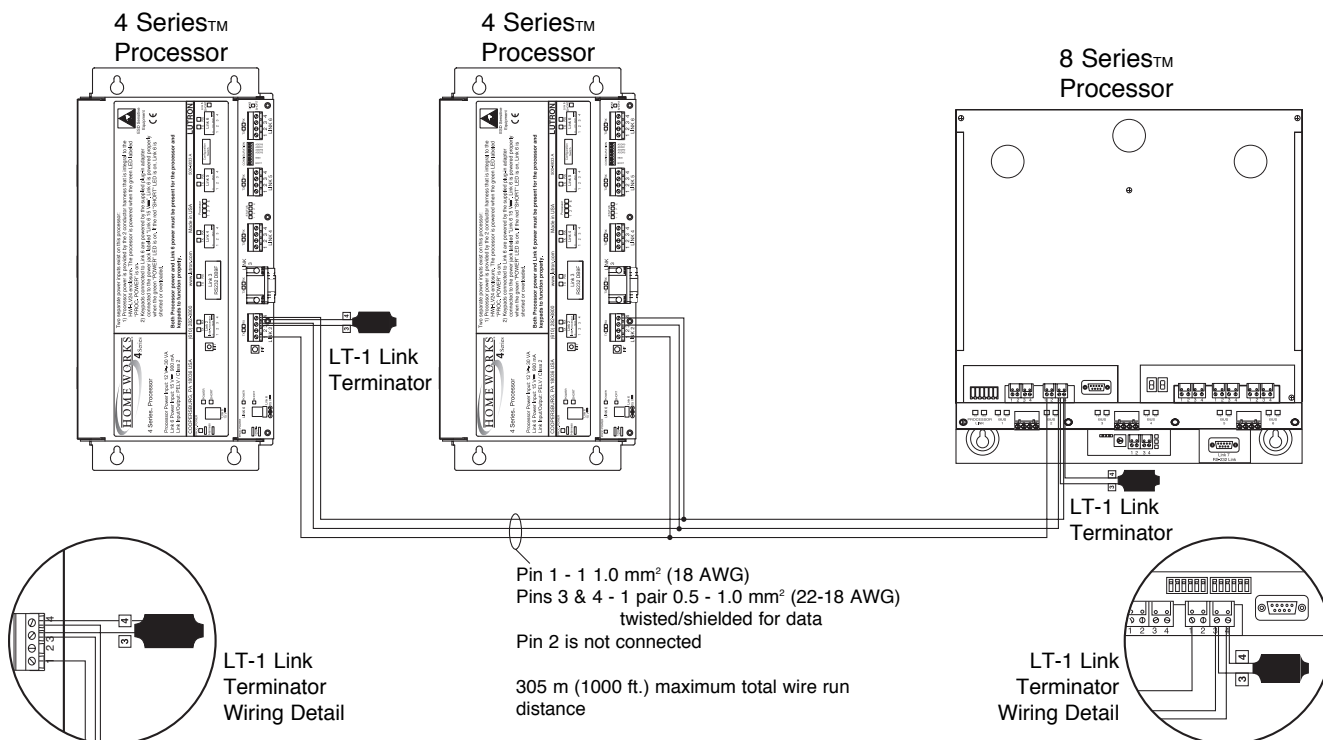

Figure 5 - Daisy Chained HomeWorks® Processors
5. **Connect Dimmer Hub links:** If HWI-H48-CE boards are to be controlled by this processor, the communication link to those boards should be connected to the Link 4 terminal block. Do not connect terminal 2 to an HWI-H48-CE. If the H48 Link has a cable length of 15 m (50 ft.) or more, LT-1 link terminators must be installed across MUX and MUX (terminals 3 and 4) at both ends of the link. Refer to HWI-H48-CE instructions (see Figure 5, page 4).
6. **Connect Inter-processor Link (multiple processor installations only):** The Inter-processor Link is used for communication between HomeWorks Processors. Connect control wiring to the Inter-processor Link (Link 2), if required. Do not connect terminal 2 (see Figure 5, page 4). If this processor is to be the first or last processor in the daisy chain, attach one of the LT-1 link terminators provided across the MUX and MUX (terminals 3 and 4—see Figure 5, page 3). If LT-1 terminators are unavailable, a 1/2 W resistor between 100 and 150 Ohms may be placed across terminals 3 and 4 to provide termination.